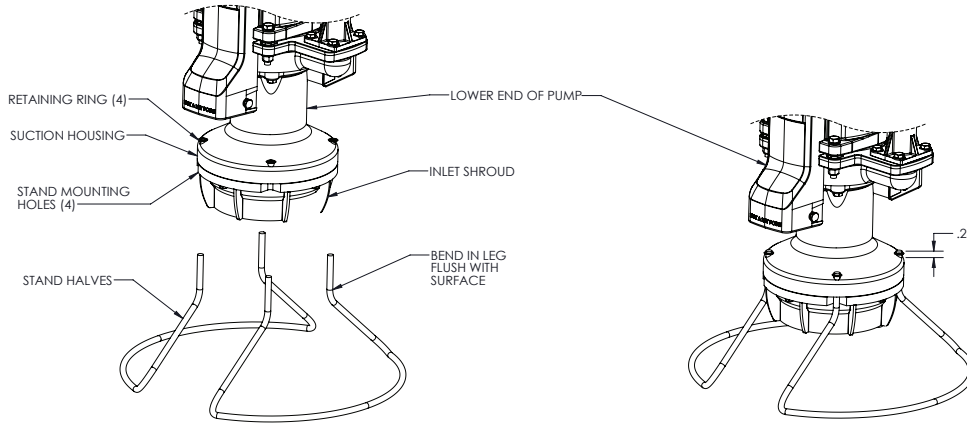

Figure 3
9. STAND ASSEMBLY (Fig. 3): Temporarily rest the grinder pump on its side. Using a block of wood or similar object, prop up the lower pump end to allow installation of the pump stand. Align the two legs of each pump stand half with two of the holes in the pump lower end. Push the stand legs into the pump lower end. Using a mallet, ensure that the stand legs bottom into the mounting holes. Repeat for the other stand half. Turn the pump upright on the installed stand.